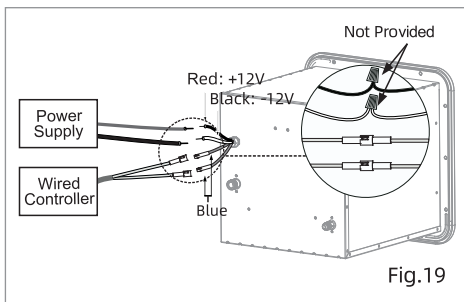

Fig.19
2. Connect the power supply wires (on rear of water heater- red and black wire) to the appropriate nominal 12V DC power source connection. (Fig.19)
3. Connect the wall controller wires (2 blue wires on the appliance). (Fig.19)